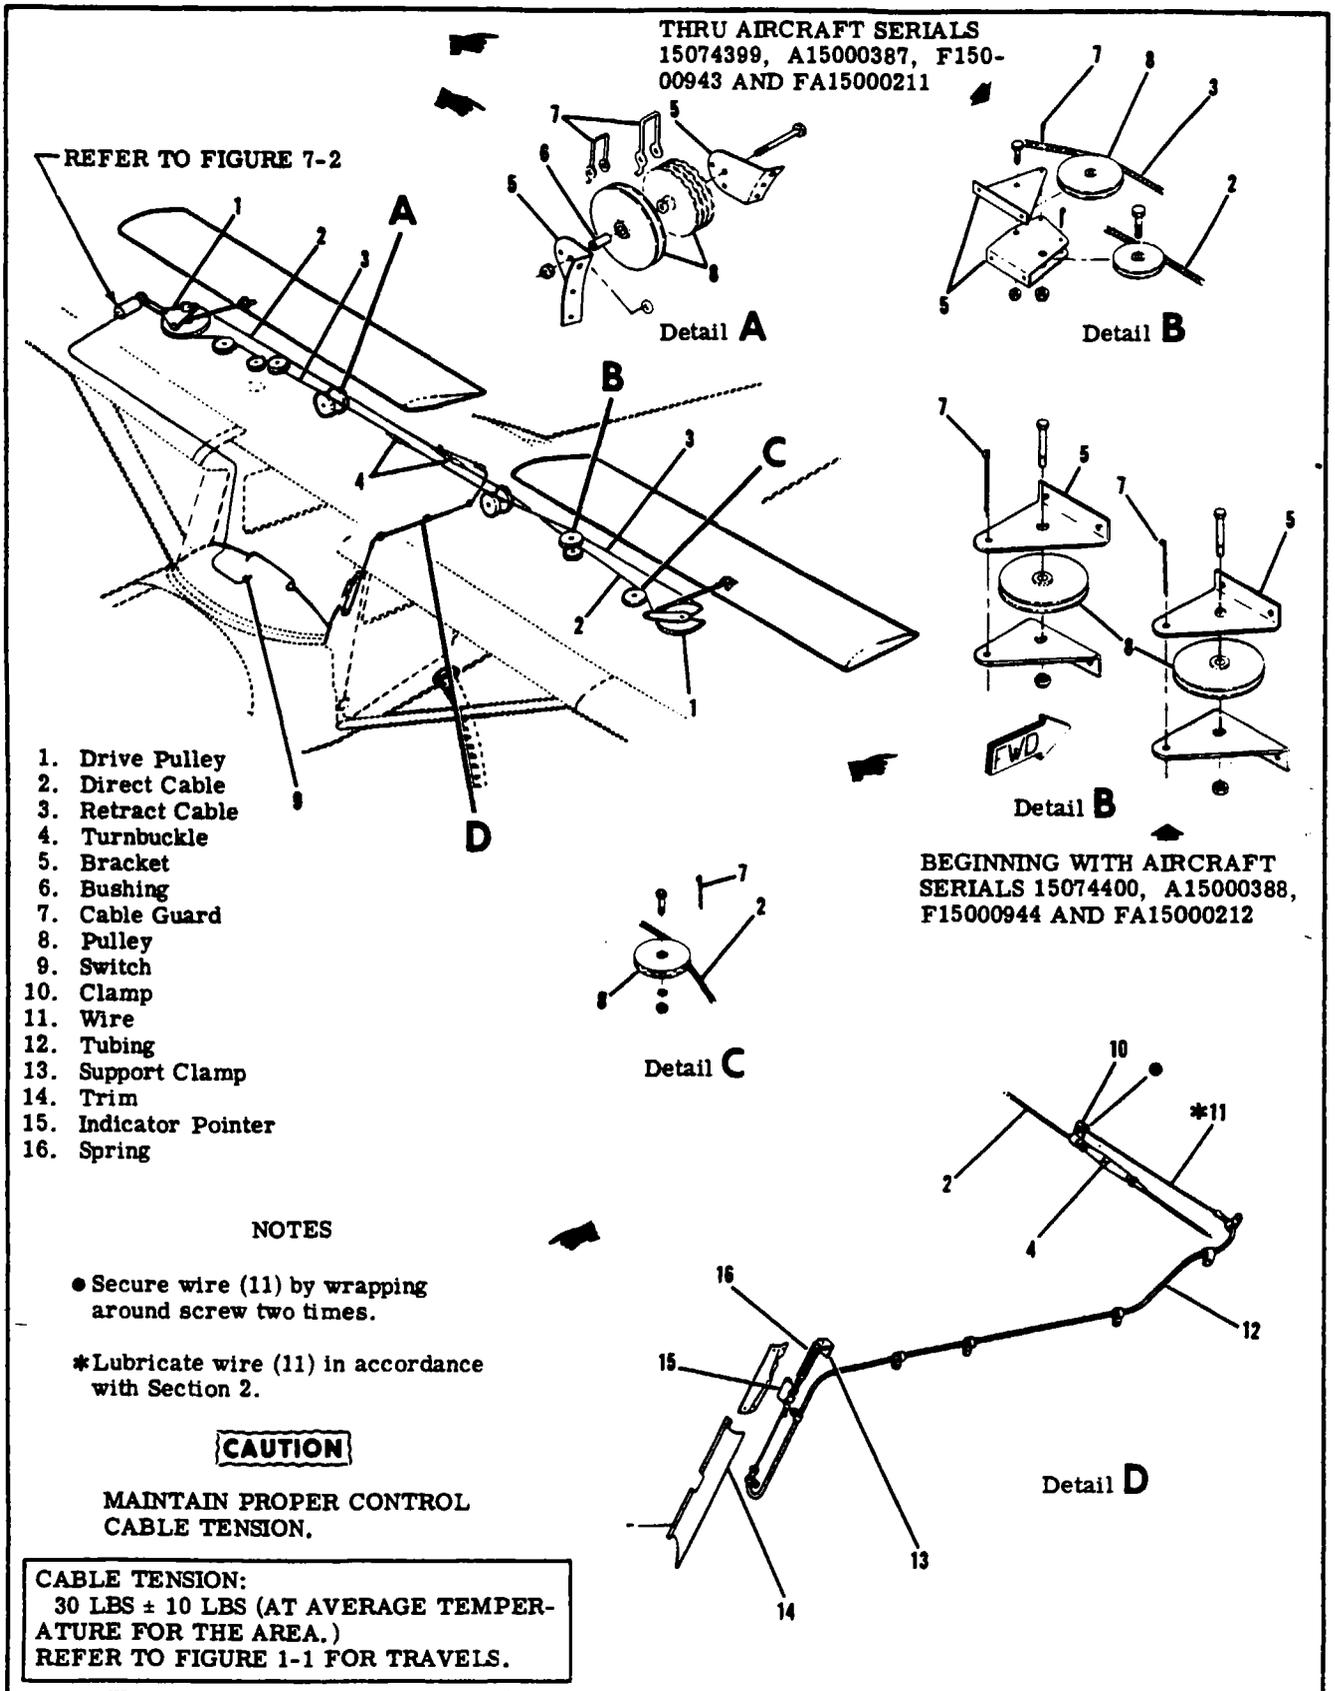

Figure 7-1. Wing Flap Control System
7-1. WING FLAP CONTROL SYSTEM. (Refer to figure 7-1.)
- a. Remove access plate adjacent to drive pulley (14) in right wing.
- b. Unzip or remove headliner as necessary for access to turnbuckles (index 4, figure 7-1), remove safety wire and loosen turnbuckles.
- c. Remove bolt (20) securing flap push-pull rod (15) to drive pulley (14) and lower RIGHT flap gently.
- d. Remove bolt (21) securing actuating tube (5) to drive pulley (14) and lower LEFT flap gently. Retain bushing.
- e. Remove cable locks (13) securing control cables to drive pulley (14). Tag cables for reference on reinstallation.
- f. Remove bolt (12) attaching drive pulley (14) to wing structure.
7-14. CABLES AND PULLEYS. (Refer to figure 7-1.)
- a. (Refer to figure 7-1.) Unzip or remove headliner as necessary for access to turnbuckles (4).
- b. Disconnect indicator wire clamp (10) and slowly release indicator wire (11) until spring (16) tension is relieved.
- c. Remove safety wire, relieve cable tension, disconnect turnbuckles (4) and carefully lower LEFT flap.